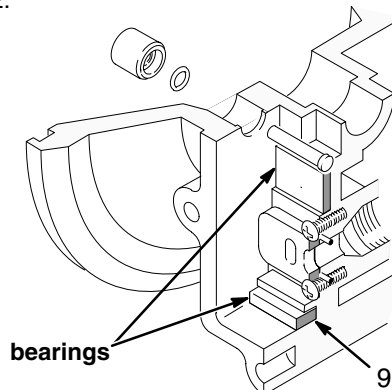

Fig. 2
2. Make sure the bearings stay in place. Sometimes they stick to the air valve when it is removed. See Fig. 2.